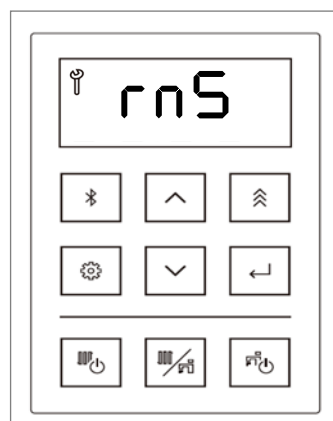

Figure 155
17. After 60 minutes flushing time completes, display shows "rnS" (rinsing) (Figure 155) and beeping sound is observed.